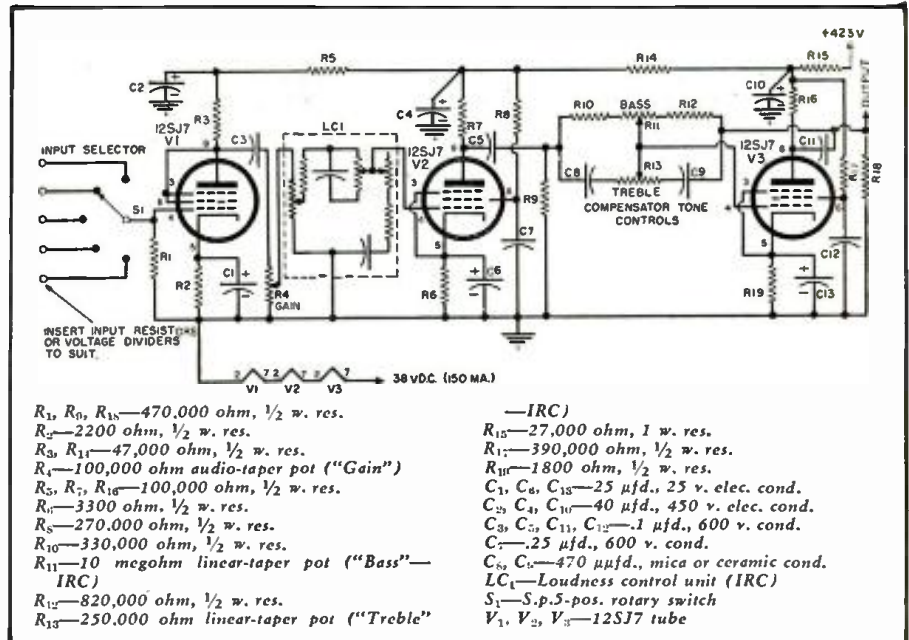

Fig. 2. Complete schematic diagram and parts list for preamplifier-control unit.
3. Both cut and boost are available. The component values used in the tone circuit are given in the parts list accompanying the schematic diagram of Fig. 2. The over-all preamplifier
Since the tone control stage has no gain, it is still necessary to supply at least 46 db, plus 6 db (to make up for the loss of the IRC loudness control, LC_1) for a total of 52 db. Two 12SJ7 stages are used to supply about 55 db, as shown in Fig. 2. The 12SJ7's, the first connected as a triode and the second as a pentode, are used instead of a high-gain double triode for the following reasons: